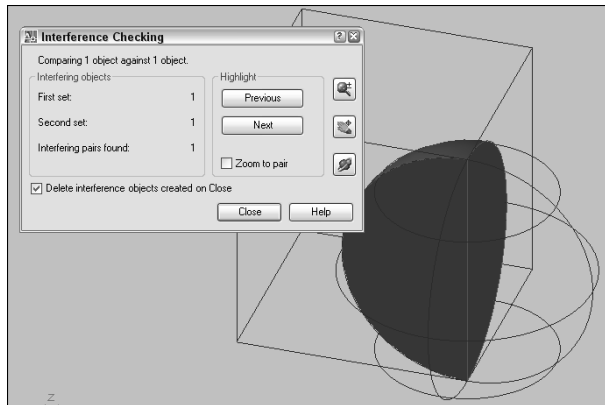

**Figure 24-21:** When you use INTERFERE, the original solids remain intact.
Figure 24-21 shows a solid that was created using INTERFERE, as well as the Interference Checking dialog box.
3. At the **Select second set of objects** or **[Nested selection/check first set] <check>: prompt**, select the second set of objects and press **Enter** to end object selection. If you don't want a second set, press **Enter** to check the solids. The Interference Checking dialog box opens and the display zooms in to the model, shading the interference and showing the rest of the model in wireframe, as shown in Figure 24-21.